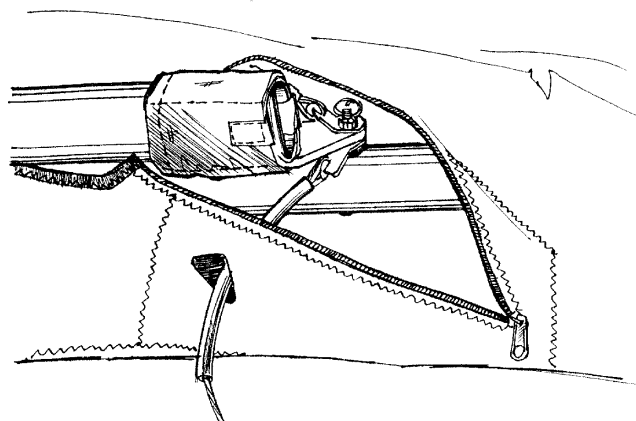

Fig.34
2.4.3. Look through the open bottom surface pockets near the crossbar/leading edge junction and check that this junction is safely secured with the nut and the safety ring. Check that side wires are attached to the junction properly, that wires are not twisted and are not caught up (Fig.34).